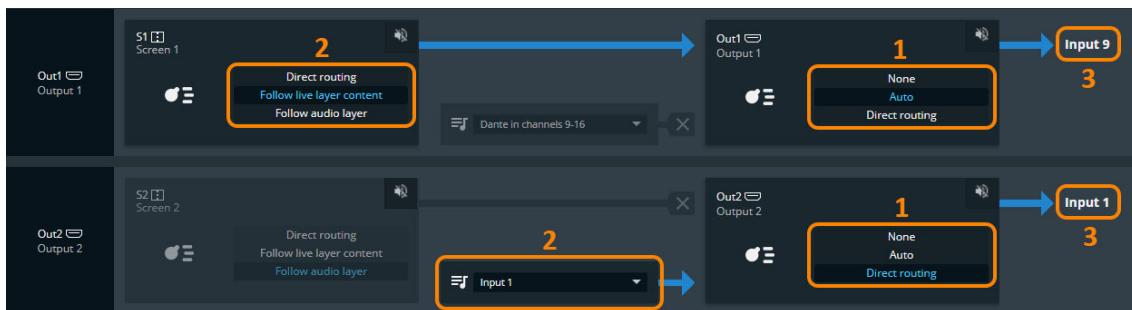

Fig. 30 - Audio concept
2. Set an output audio mode on **Direct routing** (step 1 on Fig. 30 - Audio concept page 104).
2. Set an output audio mode on **Auto** (step 1 on *Fig. 30 - Audio concept* page 104).
2. Set **Output 1** audio mode on **Auto** (step 1 on Fig. 30 - *Audio concept* page 104).